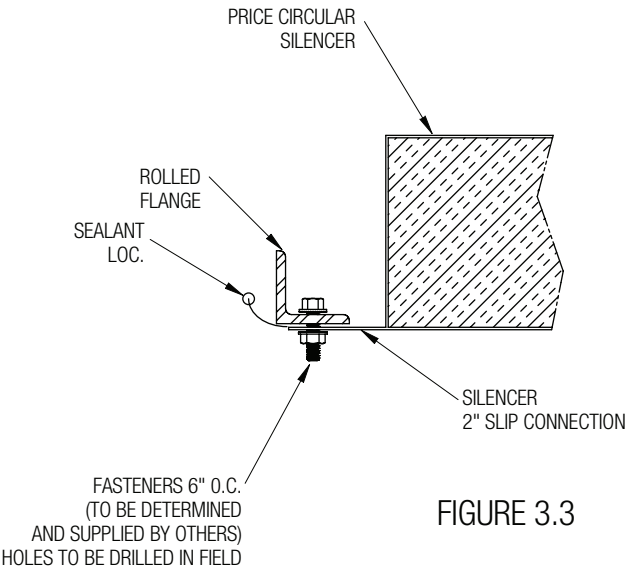

FIGURE 3.3
- Figure 3.3 provides general information for attaching flanges with fasteners.